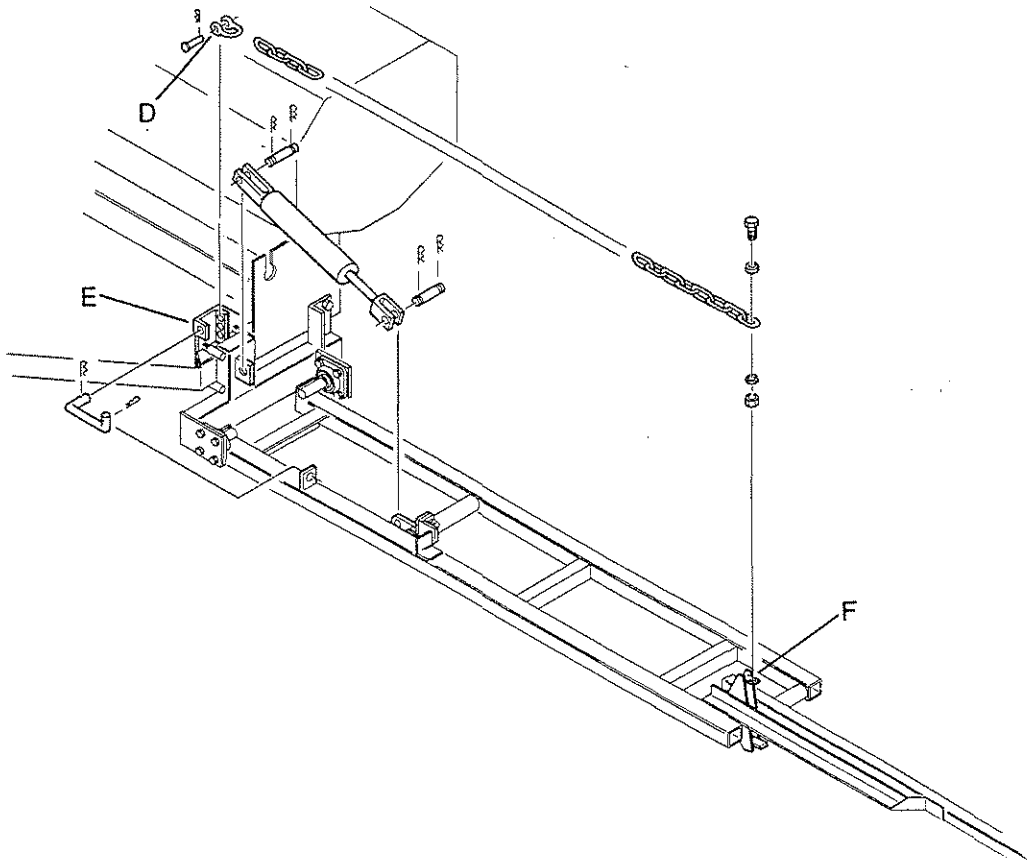

Figure 2
3. Insert clevis (D) through chain (see fig. 2) and attach to center hole of chain mount (E). Determine length of chain necessary to allow 1" to 1½" slack with marker extended horizontally and attach chain to chain track (F) with one 3/8" x 1¼" long bolt, flatwasher, lockwasher and hex nut.